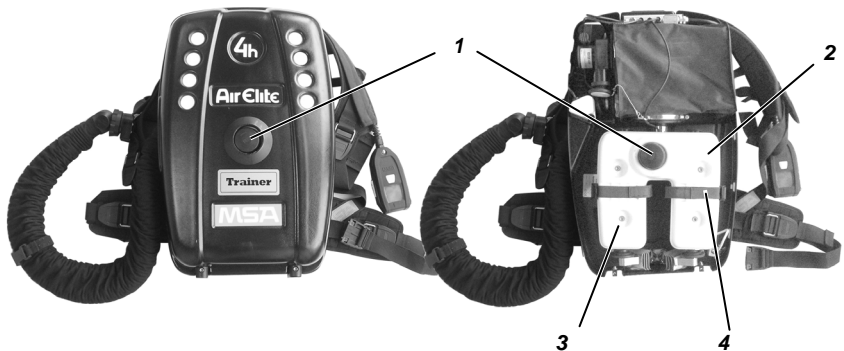

Fig. 6 Breathing apparatus with training canister
- (1) Unscrew air inlet (→ Fig. 6) and check integrated blower for contamination.
- (2) If necessary, blow out blower with compressed air.